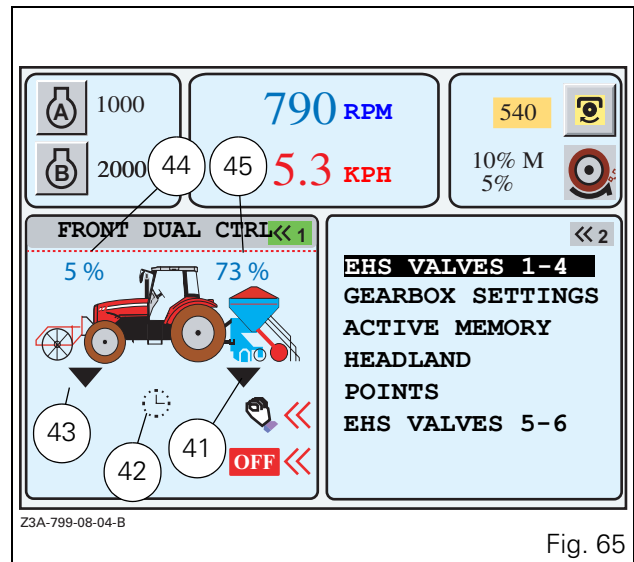

Fig. 65
- Validate by pressing the encoder or the key \ll_1 . The window (Fig. 65) is displayed.
Description (Fig. 65):